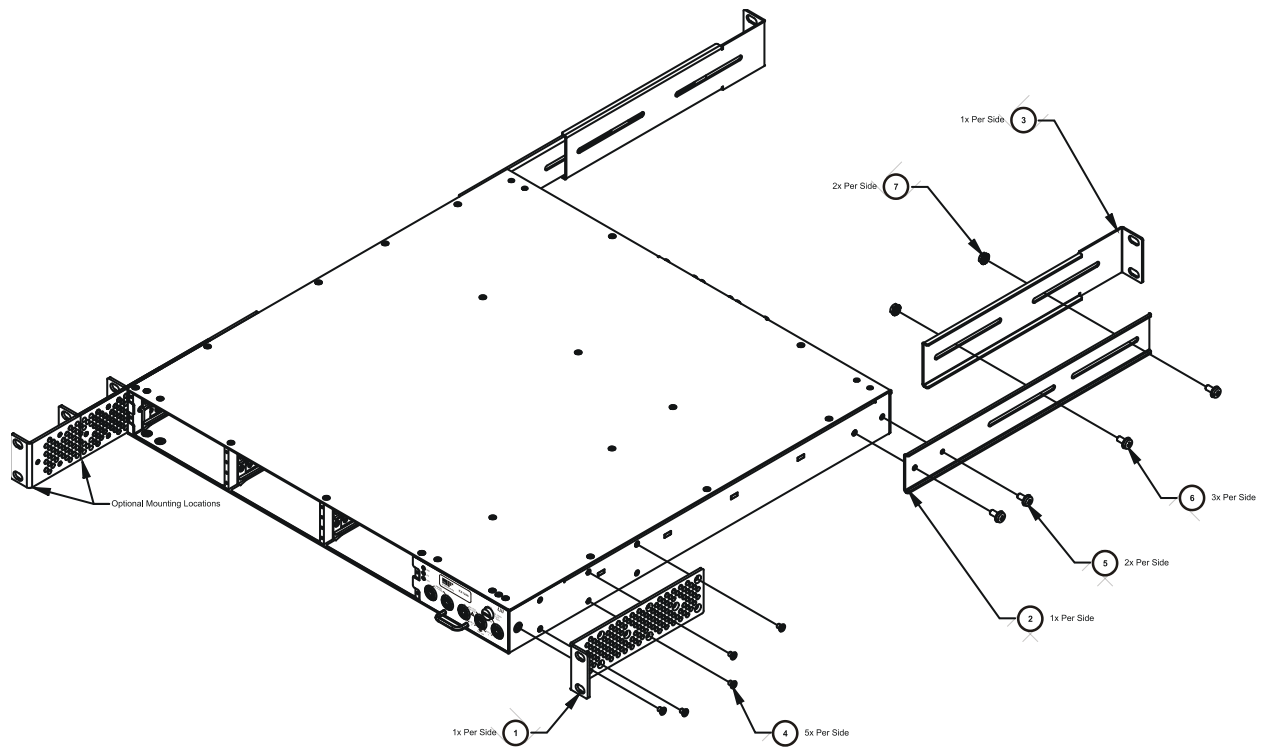

FIGURE 2-10: RACKMOUNT HARDWARE INSTALLATION DIAGRAM (EXPLODED FRONT VIEW)
- 2) Using a #2 Phillips screwdriver, install the rack ears (P/N: 41-0472-008) on the front of the EX1206A using five (5) 6-32 x 3/8" flat head Phillips stainless steel screws (P/N: 37-0114-025) for each rack ear. Note that the "Optional Mounting Locations" in Figure 2-10 allow the EX1206A to be installed in a rack either flush or recessed.
- 3) Next, attach the unit support brackets (P/N: 41-0482-010) to the EX1206A using two (2) 6-32 x 3/8" pan head Phillips SEMS screws (P/N: 37-0028-037) for each bracket (see Figure 2-10).
- 4) Place the rear rack support brackets (P/N: 41-0482-011) on the inside of the unit support brackets installed in step 3 and loosely secure them using two (2) 8-32 x 3/8" pan head Phillips SEMS screws (P/N: 37-0073-037) and two (2) KEPS hex nuts (P/N: 37-0200-832). Loosely installing the hardware will allow the rear support bracket to adjust to the proper length once installed in a rack.